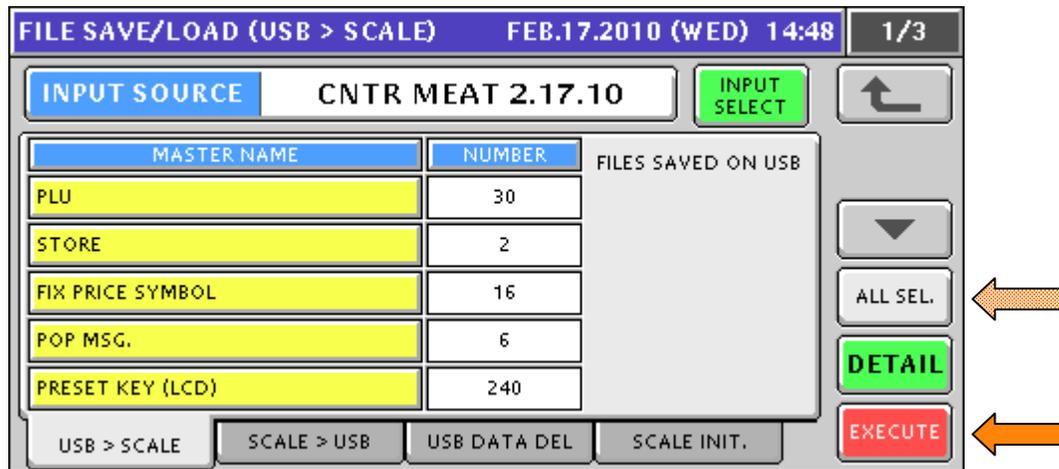

Figure 6.7. Select Files for Input
11. Press the **ALL SEL.** button to select all files for input or press individual files. The selected files are highlighted yellow. See Figure 6.7.